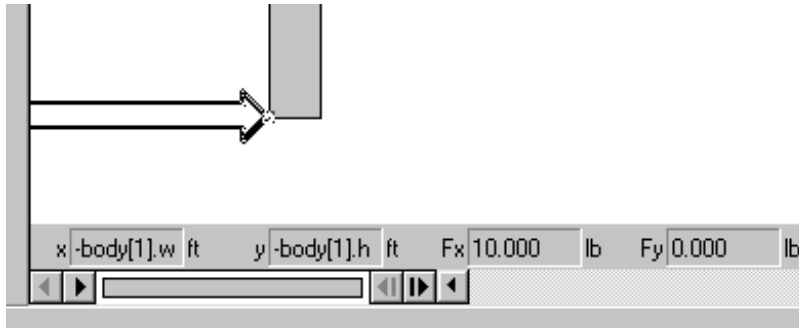

Figure 5
7. Select the Force  constraint from the drawing tool bar and click on the bottom-left corner of the vertical bar and draw a horizontal force vector, and change the vector properties on the coordinate bar similar to Figure 5.